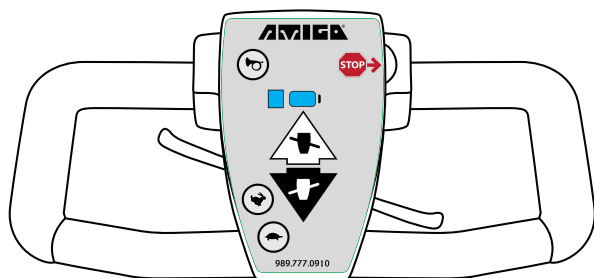
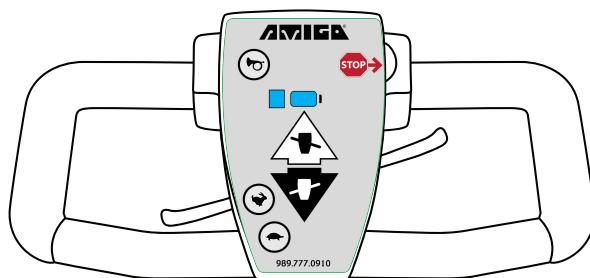

Figure 7 (forward)
Figure 8 (reverse)
- Press the forward accelerator lever or the reverse accelerator lever to move the Amigo. To move forward, pull the right side of the accelerator lever toward you (Figure 7). You can also move forward by pushing the left side of the accelerator lever away from you. To operate in reverse, pull the left side of the accelerator lever toward you (Figure 8) or push the right side of the accelerator lever away from you.